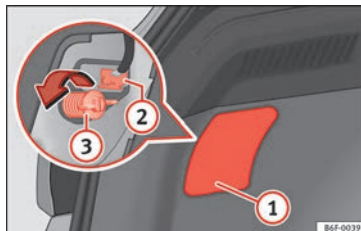
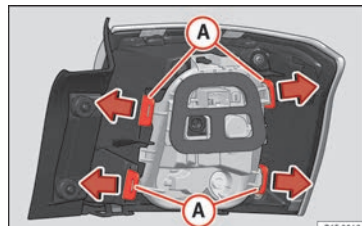

Fig. 115 Luggage compartment: access to the bolt securing the tail light unit.
Fig. 116 Retaining tabs on reverse side of tail light.
3. Remove the lid, levering the flat side of a screwdriver into the recess » Fig. 115 (1).
4. Remove the bulb connector (2).
5. Unscrew the light securing bolt (3) by hand or using a screwdriver.
7. Remove the bulb holder unlocking the retaining tabs » Fig. 116 (A).